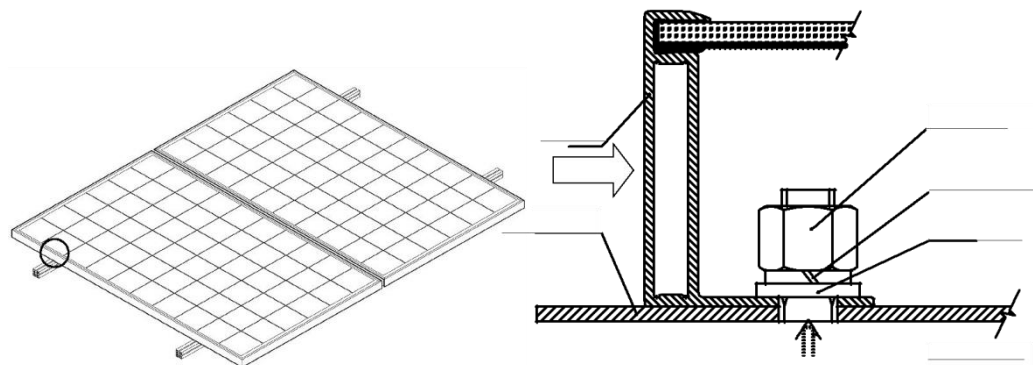

Figure 1
**Mounting hole system** Use anticorrosive M8 bolts to install the Module on the support frame through the installation holes on its own frame, as shown in Figure 1.